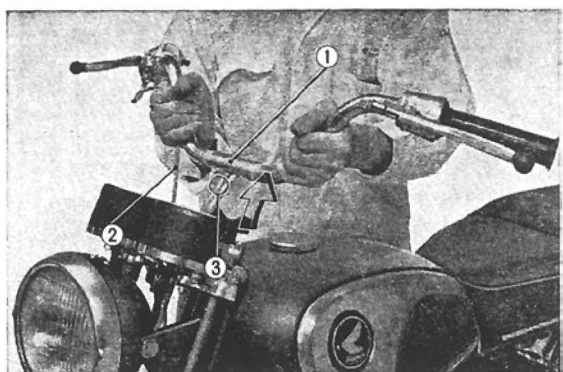

Fig. 4.7 Removing the handlebar
- ① Handlebar cable
- ② Throttle cable
- ③ Electrical leads
6. Remove handle bar by unscrewing the four bolts from the handle pipe holder clamps. (Fig. 4.7)